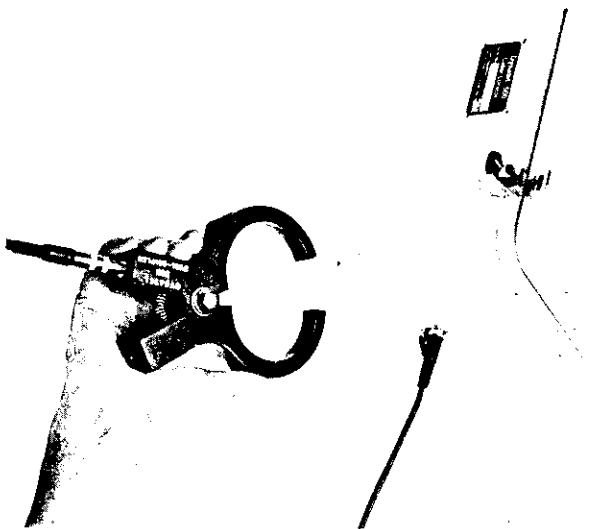

Figure 4. Opened Dyna-Coupler®
**DYNA-COUPLER®.** If access to the cable is available, this is the easiest and most accurate way to put tone on only one cable. Connect the coupler assembly to the Transmitter Output Jack with the 12-foot cable assembly (Fig. 4). Then open the coupler jaws and place them around the desired cable (or conductor). The tone will be loudest on just that one cable. It is unnecessary to remove common bonding or ground, or to open the cable or conductor.